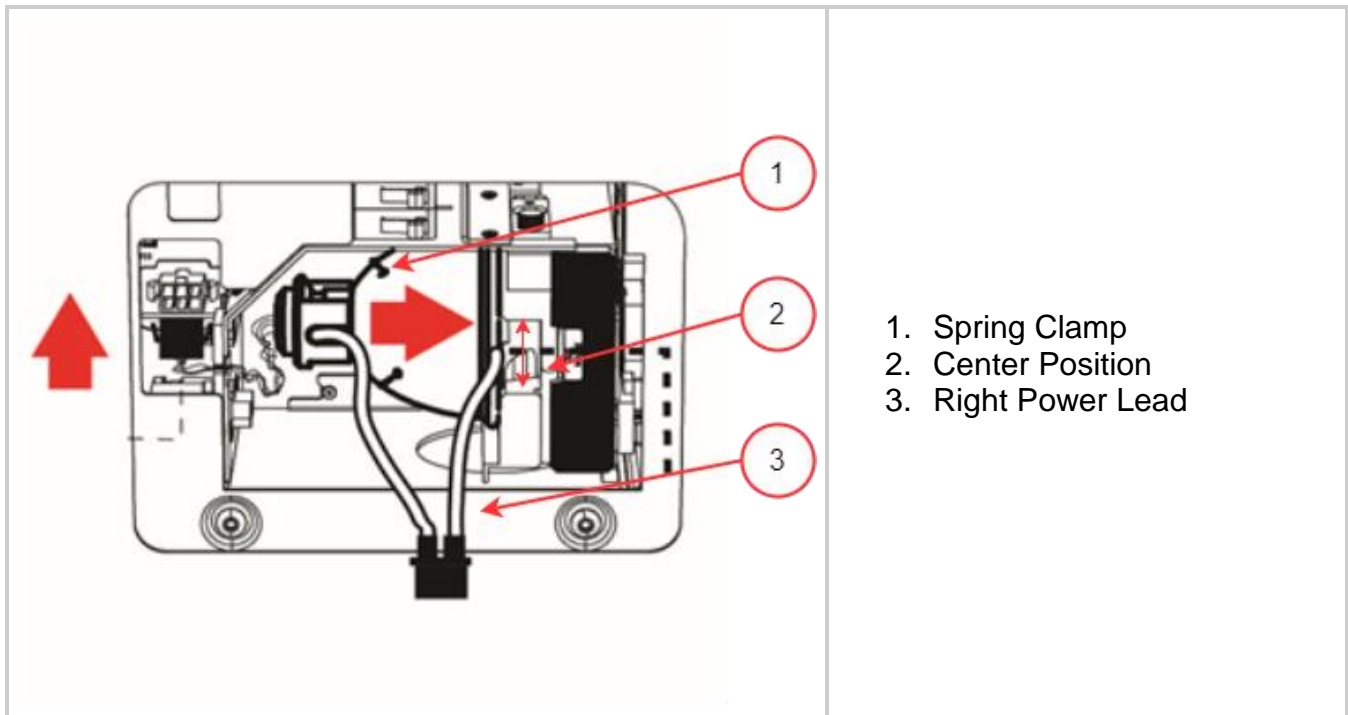

Figure 3-5 Lamp Installation Orientation -2
3. Adjust or rotate the lamp to ensure that the right power lead is not in contact with any part of the lamp holder. It should be centered within the lamp holder cut-out shown in **Figure 3-5**.